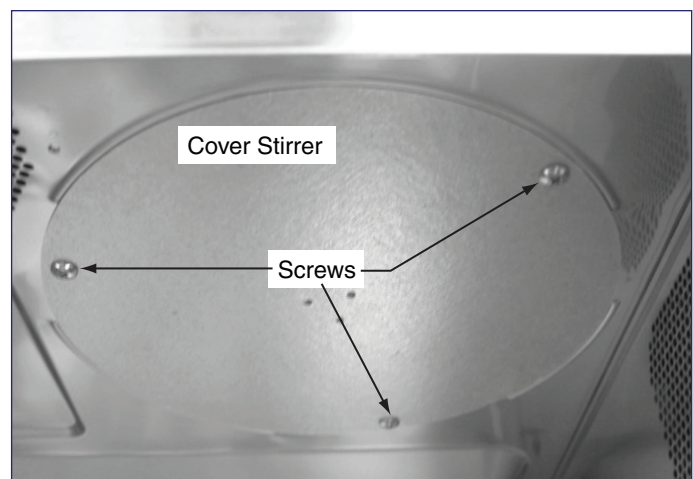

Figure 4-18. Stirrer Removal
2. Remove the screws (3) and turn the stirrer cover left. (See Figure 4-18)